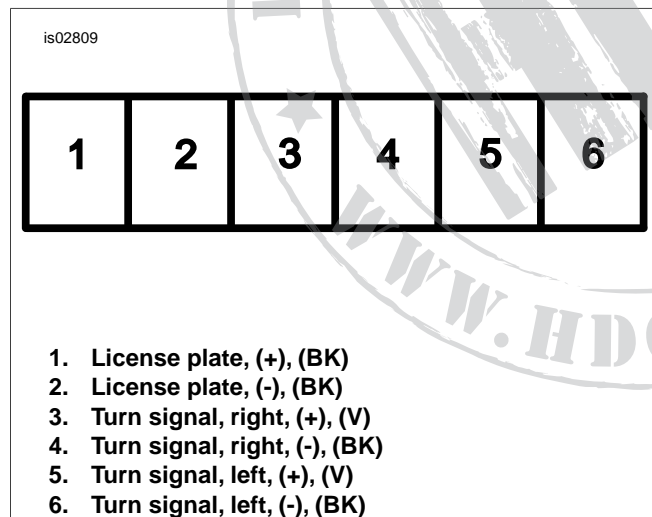
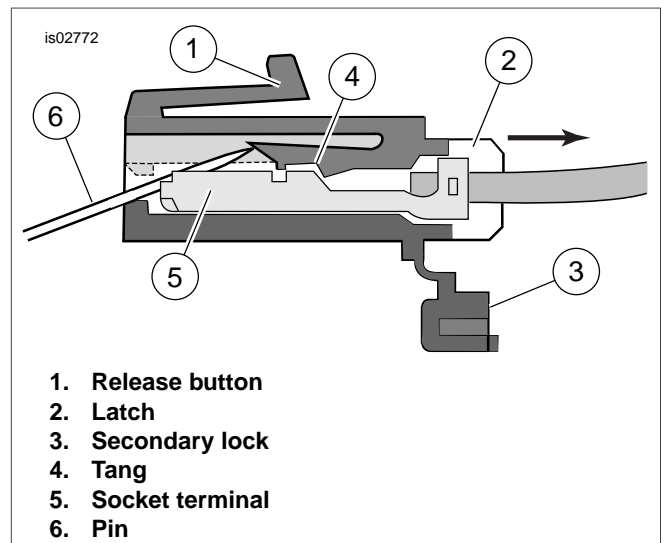

Figure 5. Turn Signal Pin Connector Locations
Figure 6. Turn Signal Connector Cross Section
3. See Figure 6. To separate the rear turn signal connector, press the button (1) and separate the pin terminal housing from the socket terminal housing.
4. On the socket terminal housing, press the latch (2) aside and open the secondary lock (3).
5. To remove the rear turn signal wires from the socket terminal housing, insert a pin (6) into the front socket cavity. Compress the tang (4) while gently pulling the wire and socket terminal (5) from the back.
5. See Figure 5. Remove the turn signal wires from the 6 pin socket terminal housing. To remove the wires, insert a pin (6) into the front socket cavity. Compress the tang (4) while gently pulling the wire and socket terminal (5) from the back. Repeat for all four turn signal wires. Do not remove the license light wires from the socket terminal housing.
14. See Figure 5. Identify left and right turn signal wires and install terminated wires in appropriate cavity in 6 pin socket connector. Close secondary lock to engage side latches.